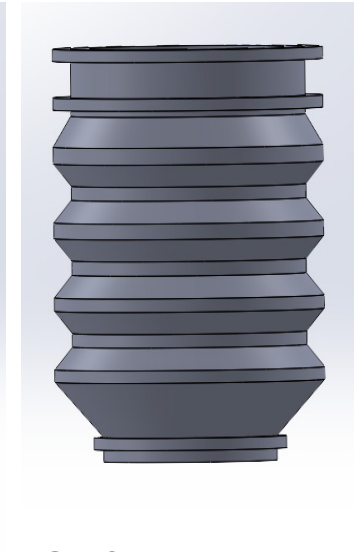

FIG 52
Step 3 required careful consideration to calculate how the body could be made to collapse. My first attempt (FIG 52) was to make each folding section the same dimension. This enabled it to partially collapse like a bellows but not nest inside each other.
I was not satisfied with how the body collapsed in FIG 52, so I used a silicone funnel to analyse a different profile and compare this with the Stojó.